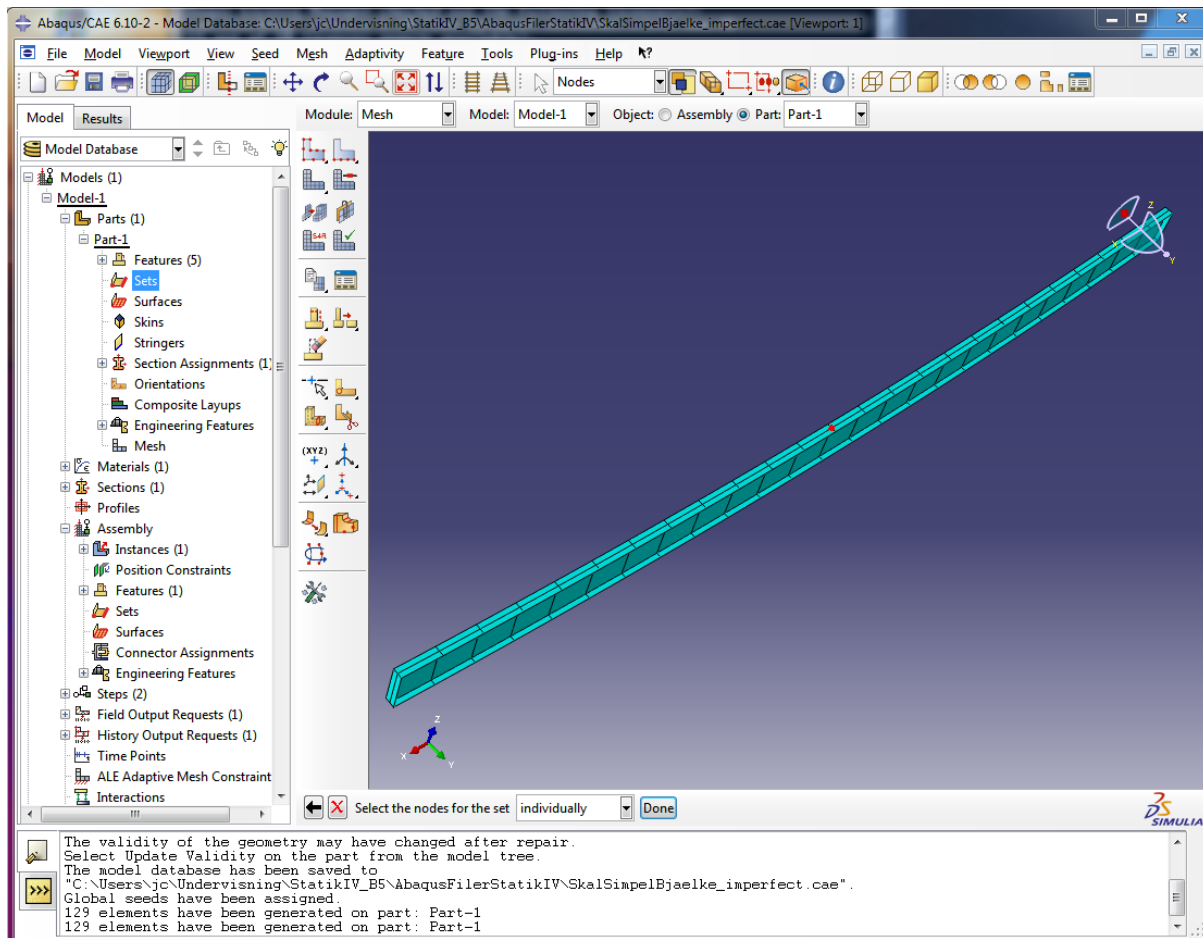

Figure 11. Selecting a node in (or near) the beam midpoint.
- c. Select a node near the beam centre, e.g. as shown in Figure 11, and press **Done**.